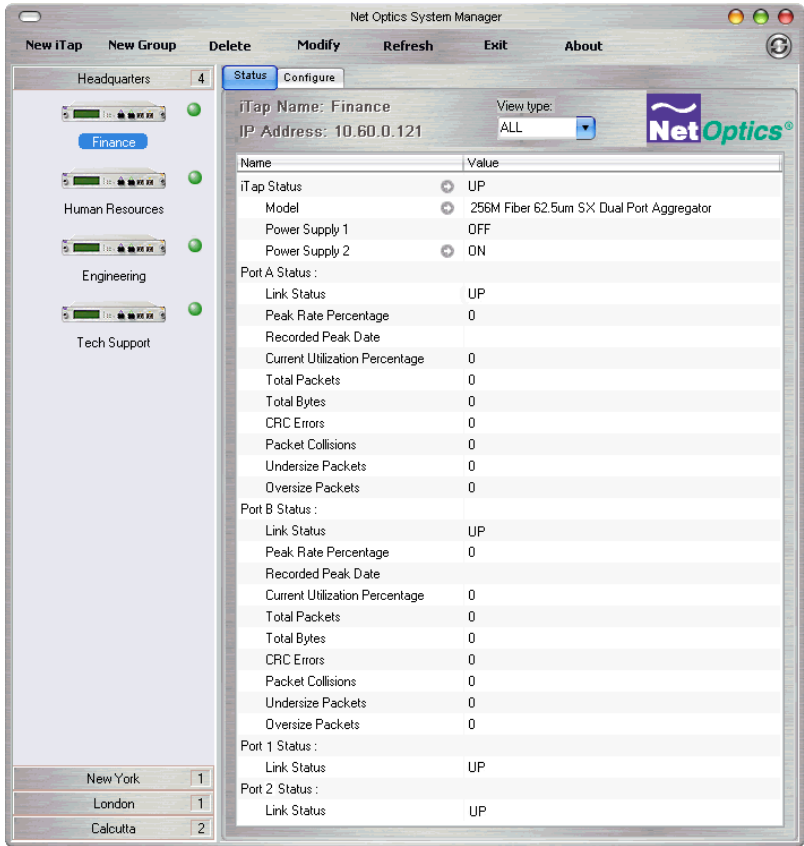

Figure 35: iTap Status Tab
1. Click the image of the iTap you want to view in the System Frame. A window similar to the one in Figure 35 appears.